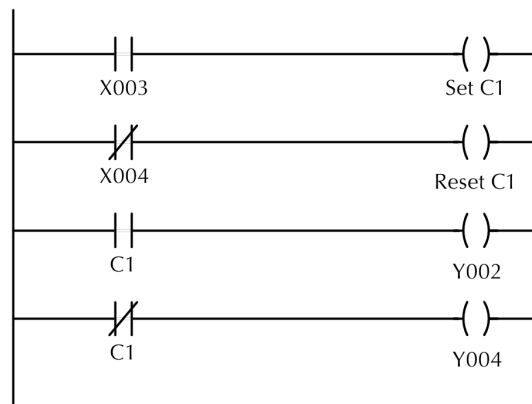

Figure 7.14: Set and Reset Coils
17. Build the ladder circuit shown in Figure 7.14 and test it out.